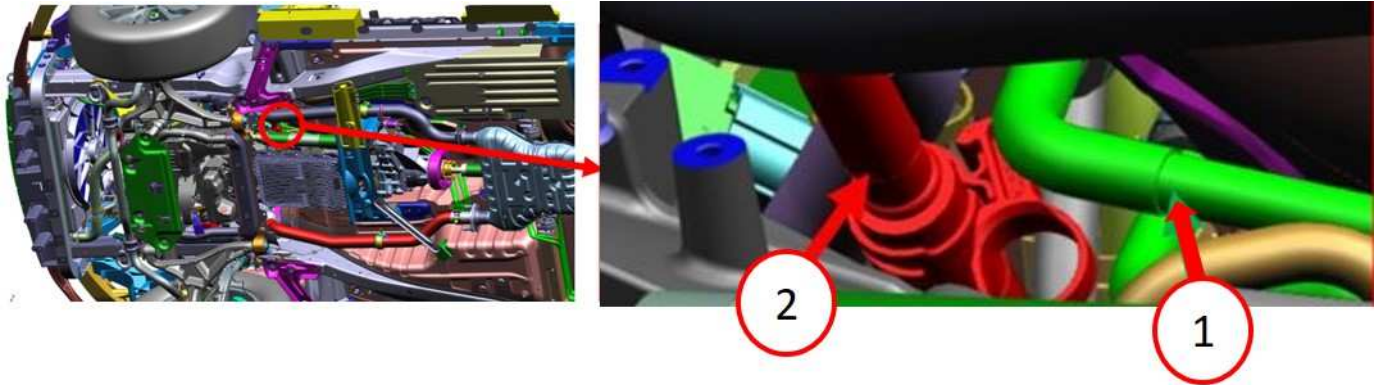
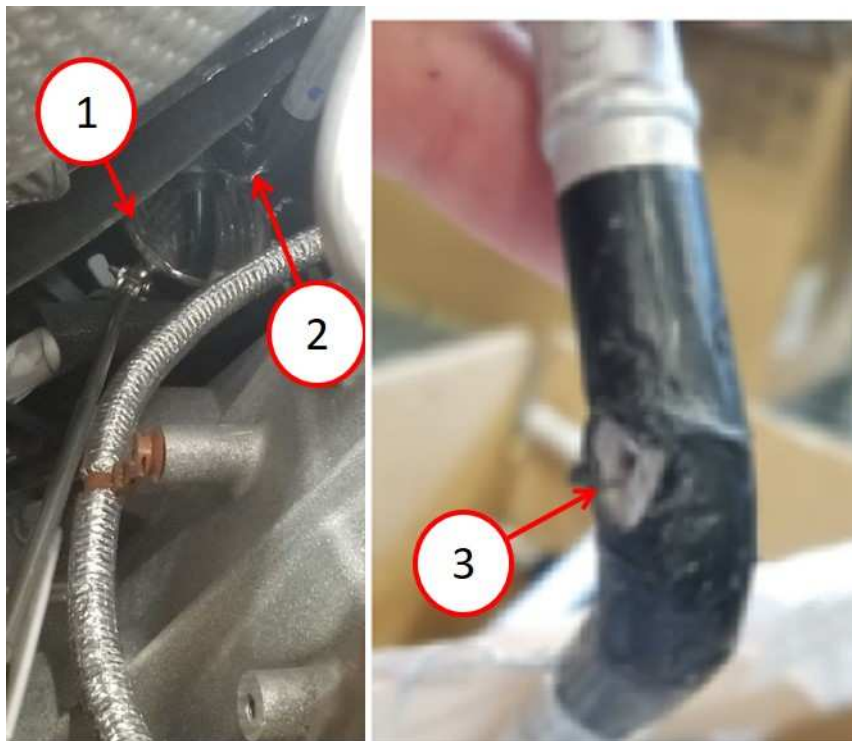

Fig. 1
Fig. 2
4. Using a mirror, inspect the rear heater coolant return tube located above the transmission on the left side of the vehicle (Fig. 1) and (Fig. 2) , for contact on the transmission oil heater tube clamp.
5. Are there any signs of a leak, deep wear, or gouging on the aluminum rear heater coolant return tube (Fig. 2) ?